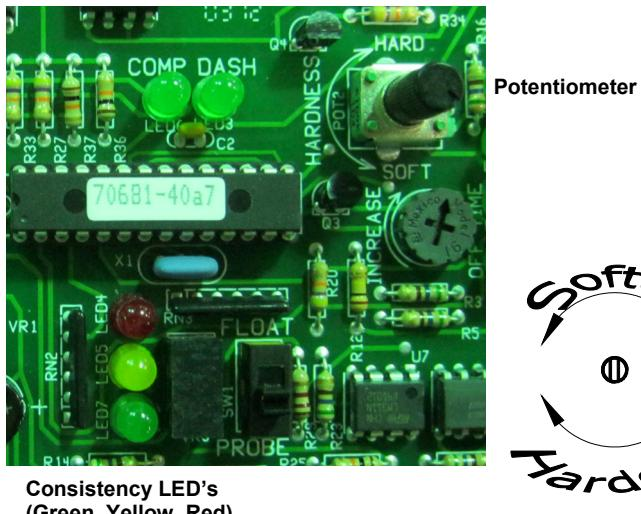

Fig. 29
3. Locate the three LED’s - green, yellow, and red - Fig. 29. These are used as a reference point to adjust for proper consistency. Initially, all of the LED’s are off. This indicates that the mix is too thin. The compressor will now come on. As the product thickens, the green, then the yellow, then the red LED illuminate. Two seconds after the red LED is illuminated, the compressor and dasher will shut off.
4. Turn the HARDNESS potentiometer (Fig. 29) clockwise to make the product harder or counterclockwise to make the product softer. **Note:** **The potentiometer is very sensitive. Adjust in small increments.**